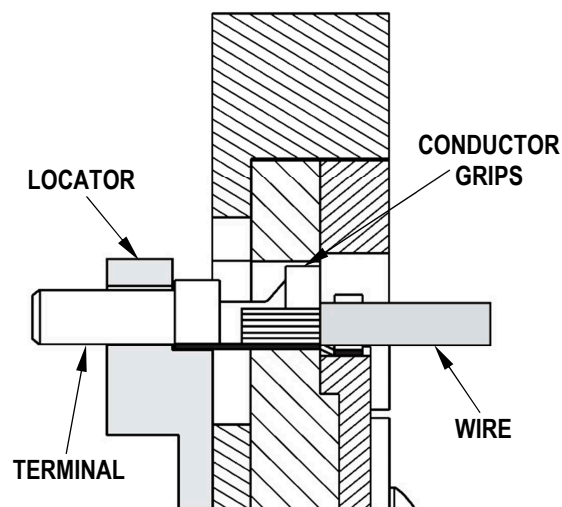

Figure 1
3. Place a pre-stripped wire into the terminal, and align the wire with the conductor and insulation grips visually. See Figure 1.